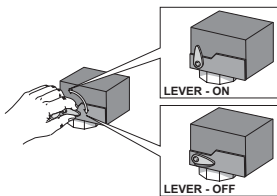

FIGURE 8
2. Turn the start key (Figure 8 - ON/OFF MSV 12/100). For models MS 3/30 and MSV 6/30 (start key assembly by customer's) and check if the rotation direction is anti-clockwise, viewed from the fan.)